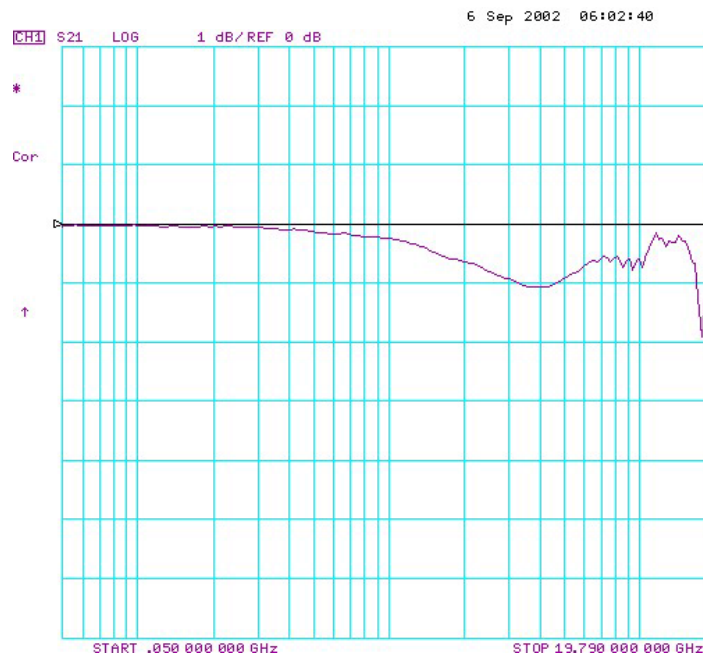

Figure 230 Typical V_{in} Waveform for an 1134B Probe
- 35 The V_{in} waveform shown on screen should be similar to that shown in **Figure 230** on page 213.